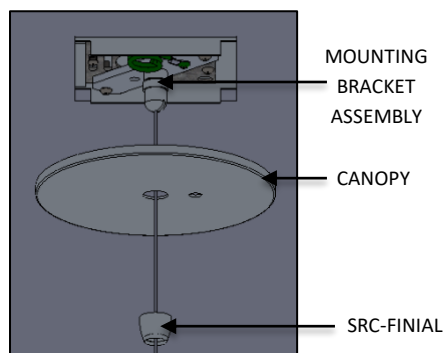

FIG. 37 – CANOPY DISASSEMBLY
28. Once the ATLA FIXTURE BODY is secured to the AIRCRAFT CABLE at the GRIPLOCK, and the GLOBE is secured by the TOP COVER and FITTER, unthread the SRC-FINIAL from the MOUNTING BRACKET ASSEMBLY and lower the CANOPY as shown below in FIG 37. Be careful not to damage finished surfaces.